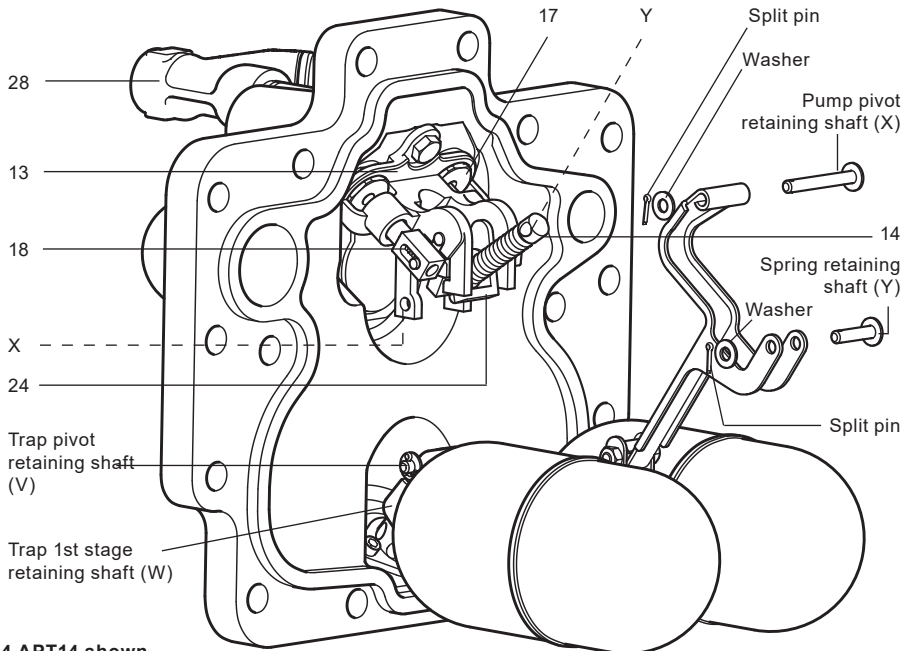

Fig. 24 APT14 shown
3. Remove a split pin and washer from one side of the spring retaining shaft (Y) (See Figure 24).
4. Remove a split pin and washer from one side of pump pivot retaining shaft (X).
5. Carefully slide the shafts out from their respective positions observing the orientation of the spring and actuator arm (item 14, 24) within the pump bracket (item 13) as these will need to be refitted later.
6. Remove a split pin and washer from one side of the trap 1st stage valve retaining shaft (W).
7. Remove a split pin and washer from one side of the trap pivot retaining shaft (V).
14. Carefully reconnect the motive steam supply and the exhaust lines to the connections marked (S) and (E). The APT14, APT14HC or APT14SHC is now ready to recommission.
15. Make sure that the Spirax Sarco motive supply strainer (with 100 mesh screen) is reinstated to the motive supply connection (item 28, Figure 24).